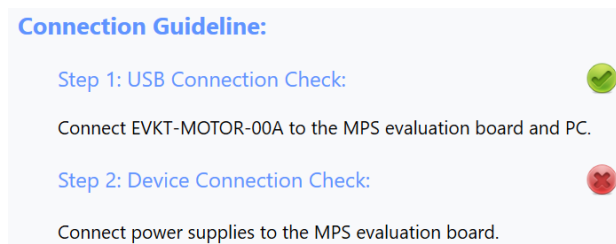

Figure 5: Device Connection Failure
- b. If the USB connection is successful but the device connection is not successful, the GUI's home page should display red and green lights (see Figure 5). The light to check the device connection can be ignored for the MP6605C, MP6605D, MP6605E, MP6606, MPQ6526-AEC1, and MPQ6527-AEC1.